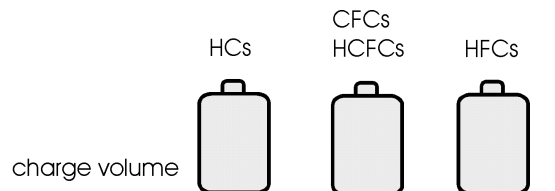

Figure 2-5
- When charging hydrocarbons **by volume, the same volume as for the halocarbon is used** as shown in figure 2-5.